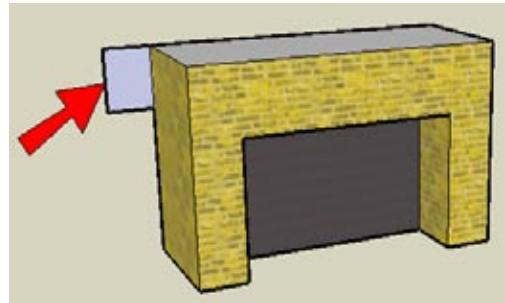

Figure 2-13
1. Draw a basic model of a fireplace. (The model shown in Figure 2-13 is a simple box with a pushed-in rectangle on the front face.)
2. Add a small vertical rectangle along the top-back corner (Figure 2-13). If you can’t get the rectangle oriented correctly, try switching to Front view, or use the Line tool instead. The Follow Me face will be drawn on this rectangle.